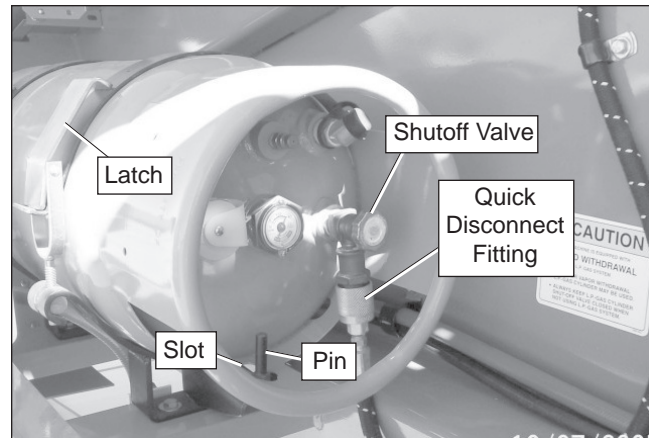

Figure 7.6 – LPG Tank
1. Close the shutoff valve (refer to Figure 7.6).